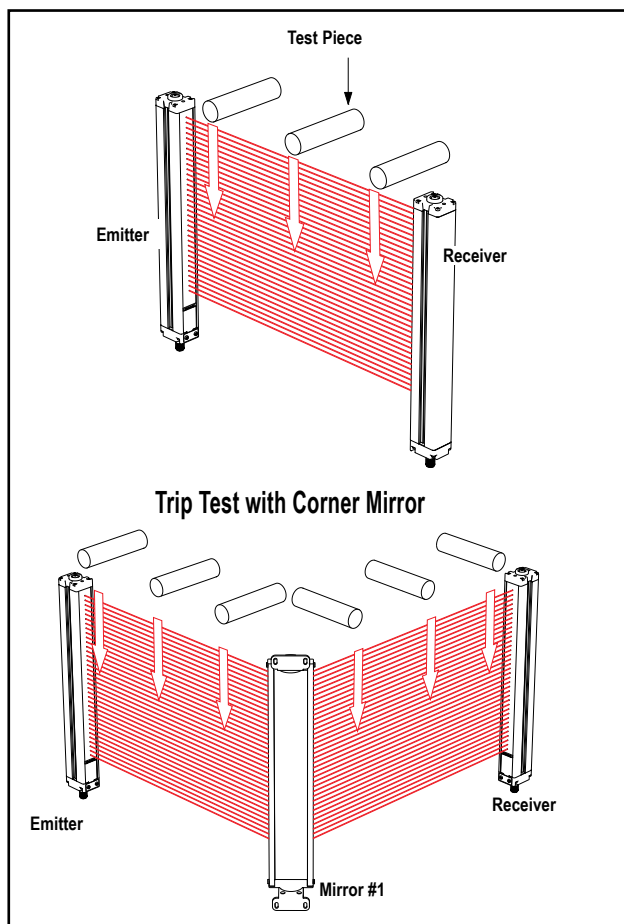

Figure 3-15. EZ-SCREEN trip test
3. Pass the specified test piece through the defined area in three paths: near the emitter, near the receiver, and midway between the emitter and receiver (Figure 3-15).
If mirrors are used in the application: Test the defined area on each leg of the sensing path (e.g. emitter to mirror, between mirror and receiver, see Figure 3-15).